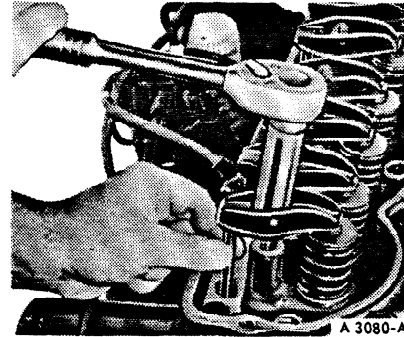

FIG. 29 Valve Clearance Adjustment
4. With No. 1 piston on TDC at the end of the compression stroke, adjust the intake and exhaust valve clearance for No. 1 cylinder. Loosen the rocker arm stud nut until there is end clearance in the push rod, then tighten the nut to just remove all the push rod to rocker arm clearance. This may be determined by rotating and/or moving the push rod with the fingers as the stud nut is tightened (Figure 29). When the push rod to rocker arm clearance has been eliminated, tighten the stud nut an additional 1 turn to place the hydraulic lifter plunger in the desired operating range.